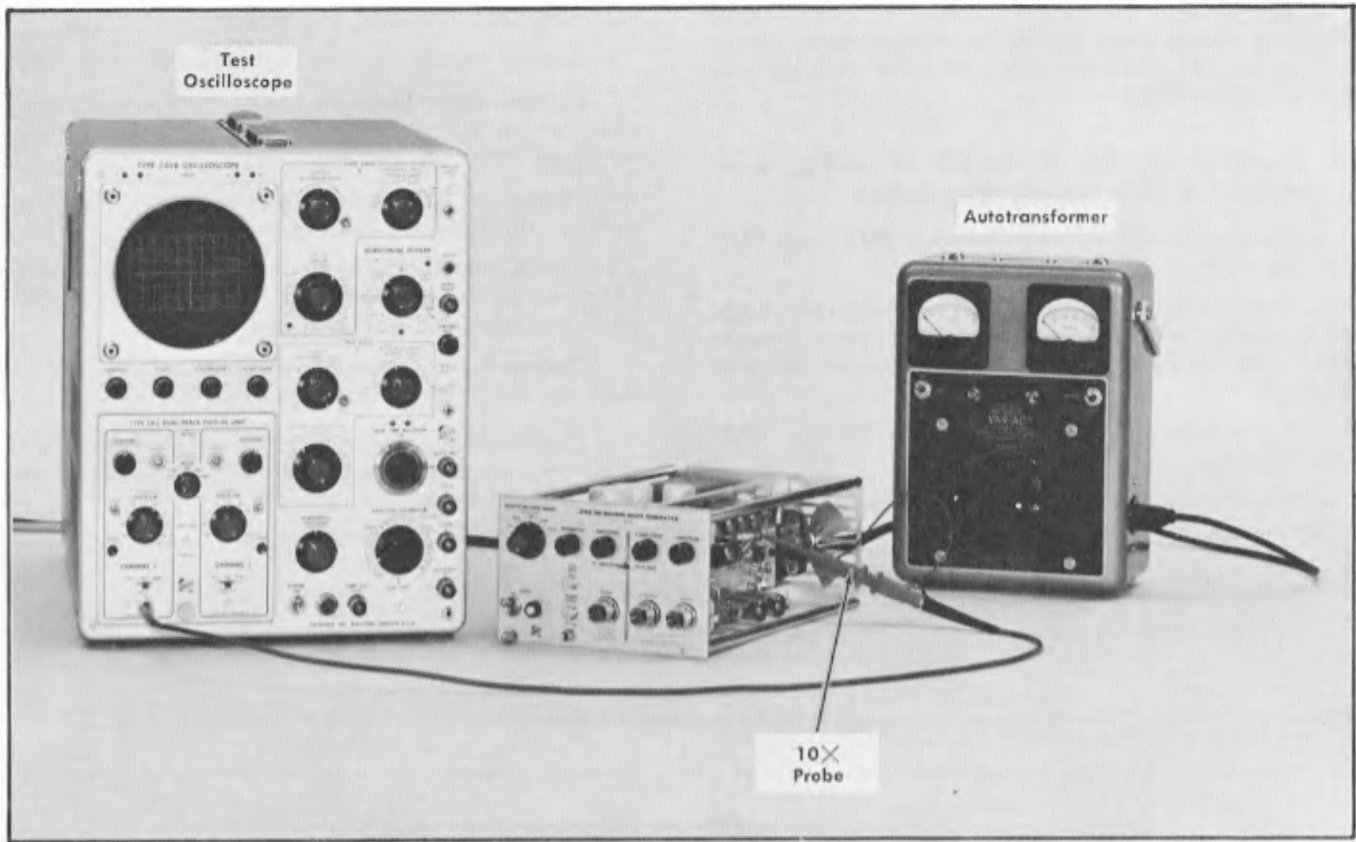

Fig. 6-6. Test equipment setup for step 6.
- a. Test equipment setup is shown in Fig. 6-6.